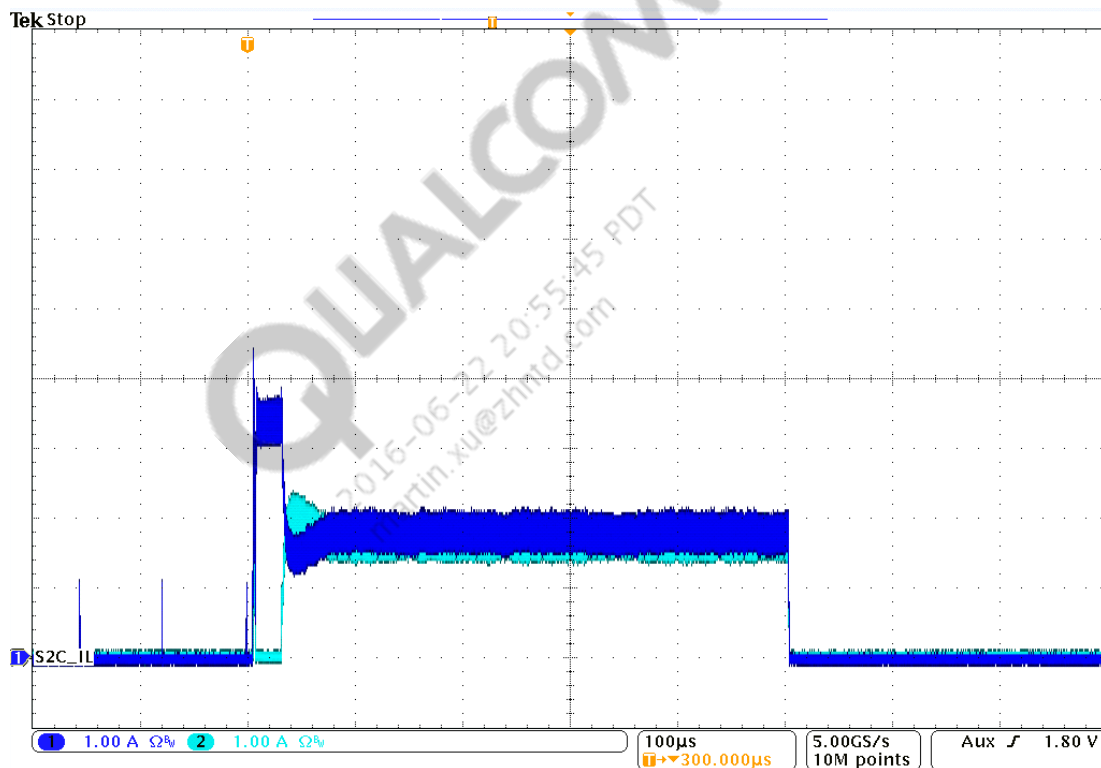

Figure 9 Current sharing on a dual-phase FT-SMPS
- Inductor currents are monitored and balanced across the active phases (Figure 9).